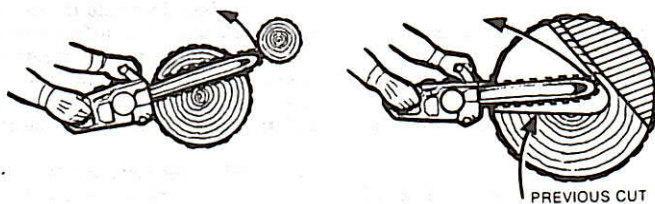

Fig. 15—Kick Back
10.31 Kick back occurs when the chain, near the nose or on the top of the guide bar, contacts any object such as another log or branch or when the chain is pinched in a cut. **Kick back is hazardous.** Hold the saw firmly with both hands at all times when operating. See Fig. 15.